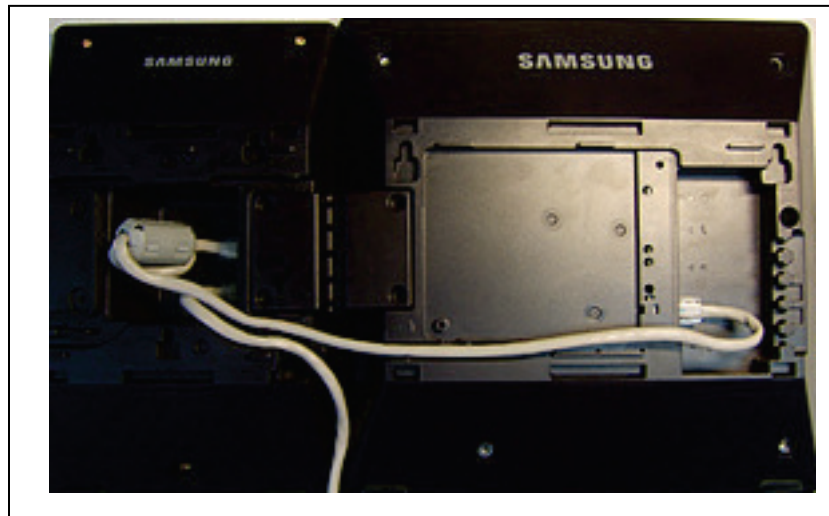

Figure 7.19 Attaching SMT-i5264 AOM to phone
- 4) To connect to the phone, connect the UTP cable between the port and the LAN port of the IP phone. (See Figure 7.19).
If PoE is used, PoE connection should be connected to the LAN port of the SMT-i5264 (AOM) first then transfer over to the phone. As shown in Figure 7.19 the SMT-i5264 (AOM) can transfer the power from the LAN port to the phone port, but the phone can't transfer power to the AOM.